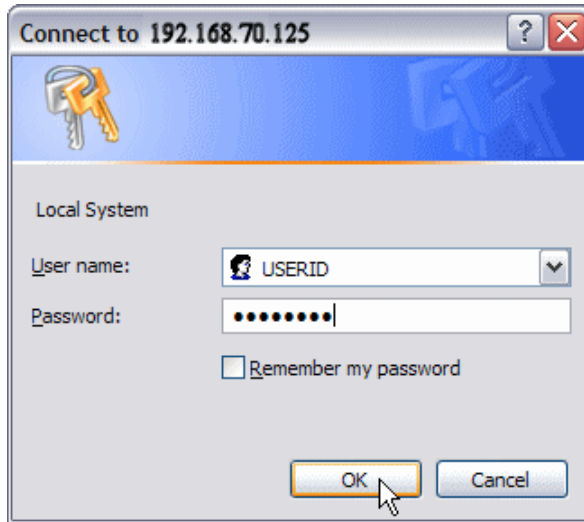

Figure 5-46 Connect to window of Service Processor
- Open a Web browser. In the address or URL field, type the IP address 192.168.70.125 of the MM to which you want to connect. The Connect to window (Figure 5-46 on page 144) opens.